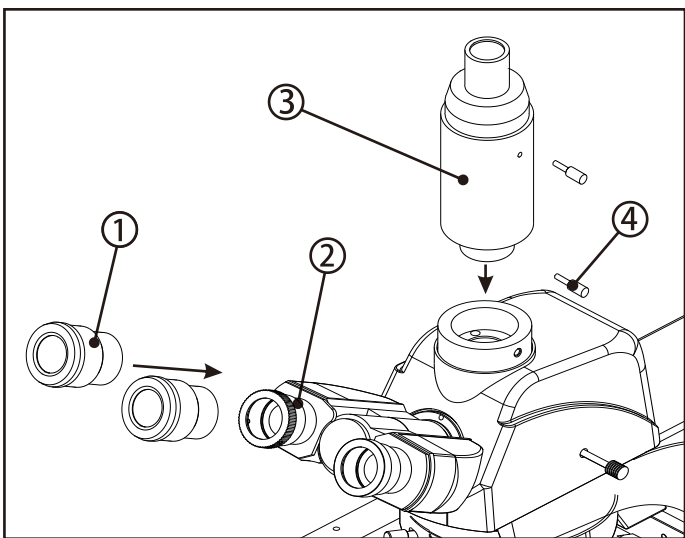

fig. 11
Insert the eyepiece ① into the eyepiece tube ② of the trinocular viewing unit until they are against each other as shown in Fig.11.
Insert the video adapter ③ into the trinocular viewing unit, then screw down the bolt ④ to fix it. The result is showing in figure 11.